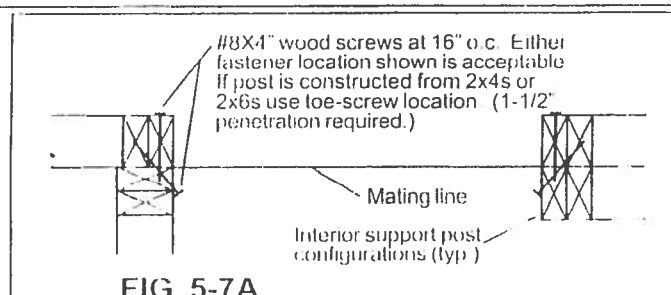

FIG. 5-7A
10. If home has double mating walls, then fasten the mating wall columns together with #8 x 4" screws 16" o.c. See Figure 5-7A.